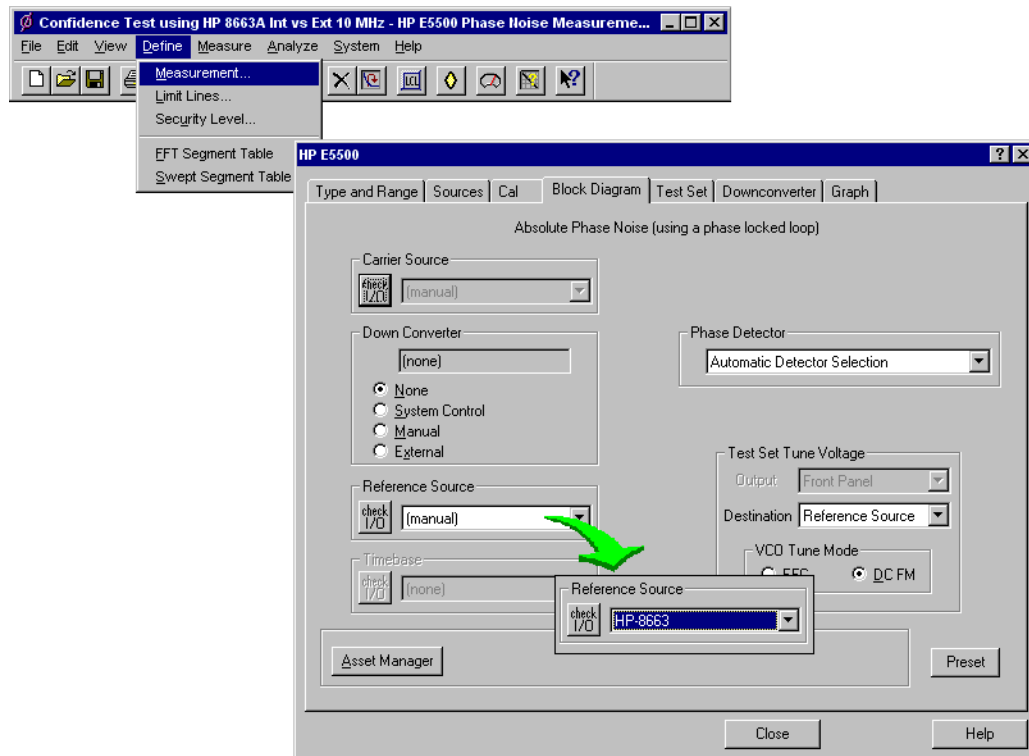

Figure 7-47 Selecting a Reference Source
- 1 Using Figure 7-47, navigate to the **Block Diagram** tab.